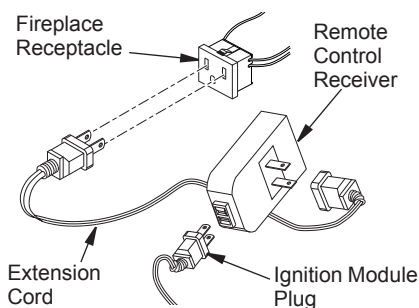

Figure 13 - Installing the WRC Remote Receiver
2. WRC model receiver does not require a battery. Receiver can be installed by first plugging short extension cord into fireplace receptacle. Plug receiver unit into extension cord. Finally, plug ignition module plug into receiver unit (see Figure 13).